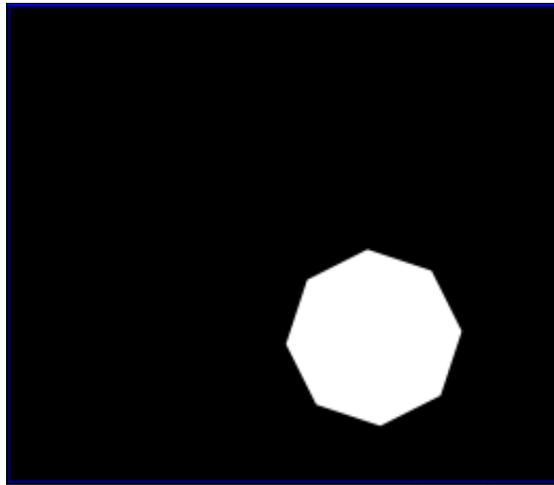

Figure 1-2 Focussed image of Field Stop
5. Adjust the height of the condenser until you can see a clear image of the Field Stop through the eyepieces like in Fig.1.2.